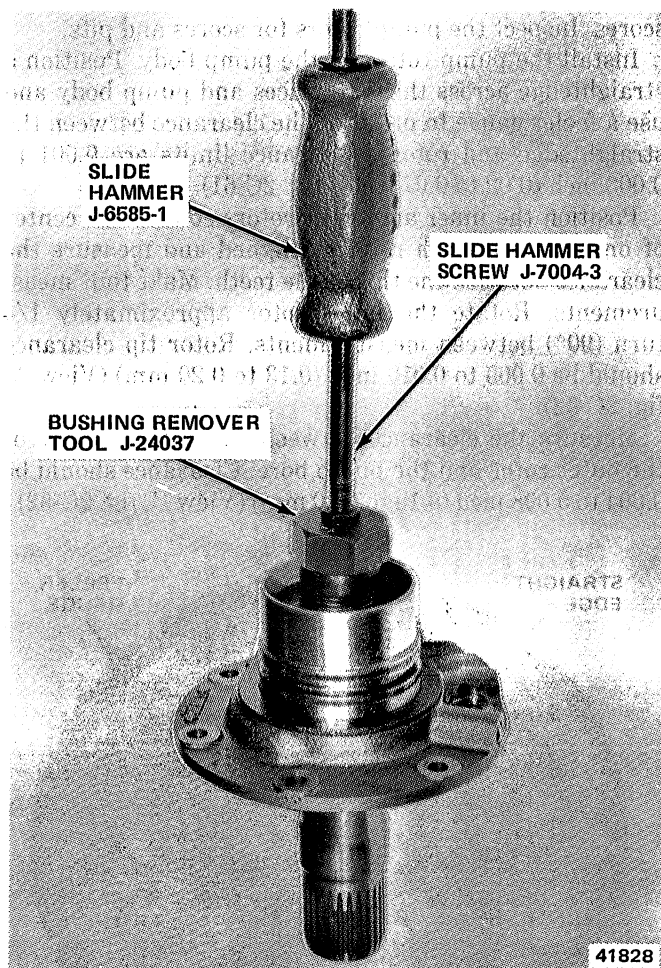

Fig. 2C-65 Reaction Shaft Bushing Removal—Model 727
(10) Install Slide Hammer Bolts Tool J-7004-3 and J-6585-1 into remover tool (fig. 2C-65). Bump outward with slide hammers to remove bushing.
(11) Thoroughly clean reaction shaft support assembly after bushing removal.
(12) Grip old bushing with pliers and remove it from Tool J-24037.